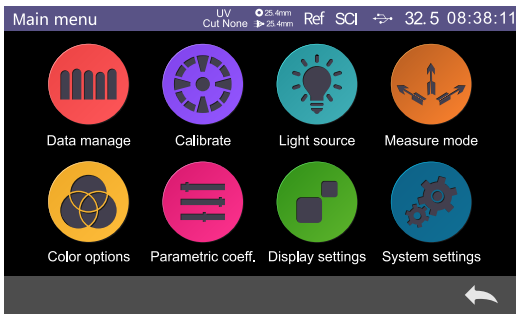
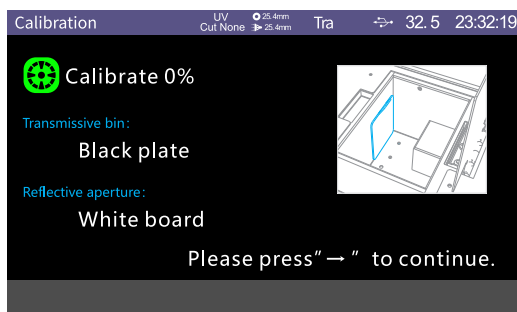

Figure 3 Main Menu
Figure 7 Transmission Black Calibration
1 、 Enter into main menu as shown in Figure 3, click “Calibrate” to enter 0% calibration. Place the transmission black plate into transmission sample bin and stick it to the side of integrating sphere tightly, close the cover, and click the test key to start calibration.as shown in Figure 7.
- 1、 Enter the main menu as shown in Figure 3, click “Calibrate” to enter 0% calibration. Place the transmission black plate into transmission sample bin and stick it to the side of integrating sphere tightly, close the cover, and click the test key to start calibration.as shown in Figure 7.